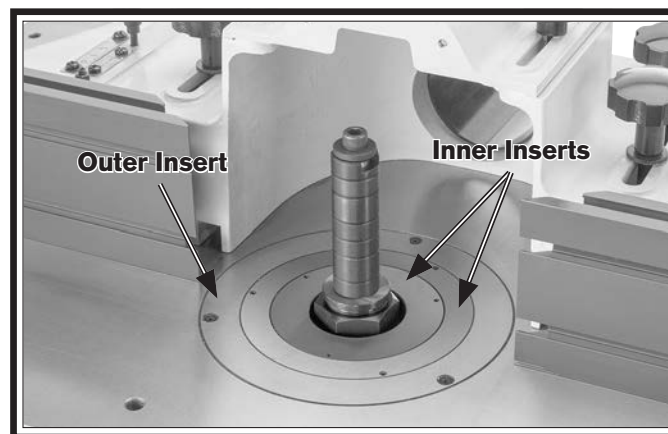

Figure 83. Location of inner two inserts (front cutter guard removed for clarity).
2. Remove (2) inner inserts from table opening (see **Figure 83**).